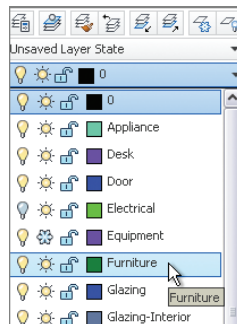

FIGURE 6.6
4. If you plan on drawing more than one object, a more efficient approach is to set the current layer prior to drawing, so that the new object will have the proper layer assignment automatically. Open the Layer drop-down menu in the Layers panel, and click on or to the right of the word Furniture to set this layer as current. Notice that Furniture appears “on top” when the drop-down is closed (see Figure 6.6); Furniture is now the current layer.